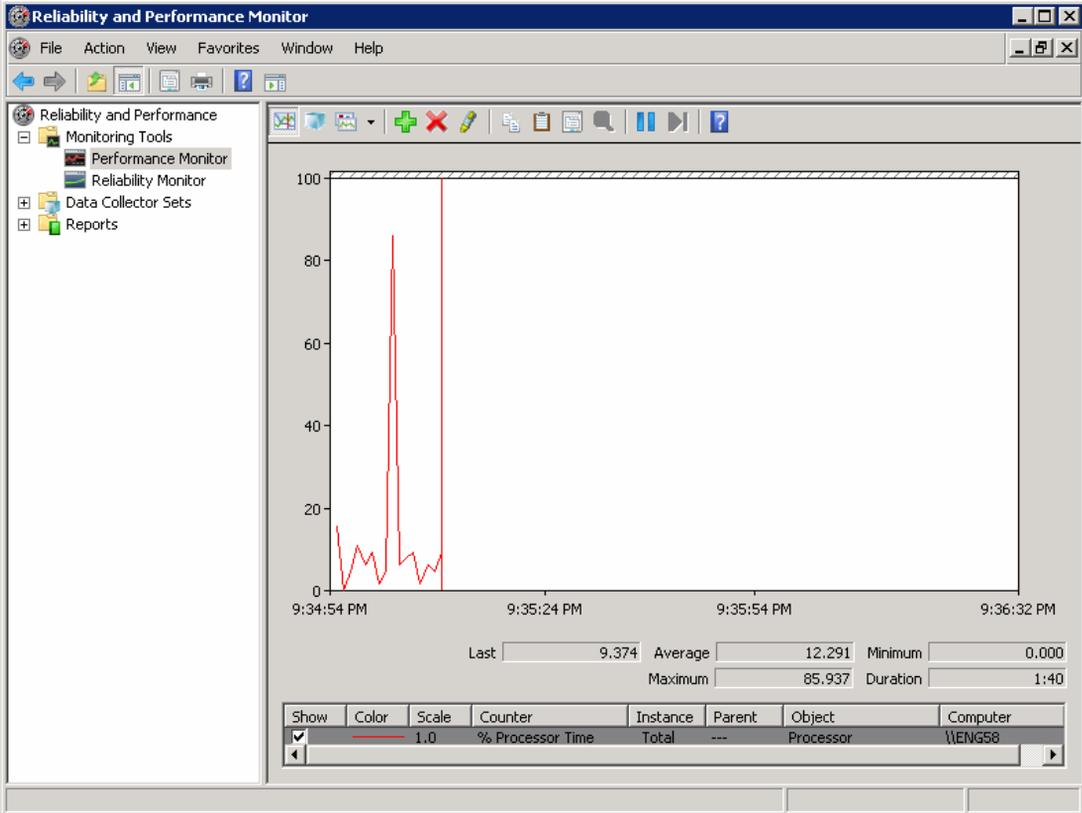

Figure 71. Adding a Counter
2. Right-click on the monitor, then choose **Add Counters...** from the context menu, Figure 71.